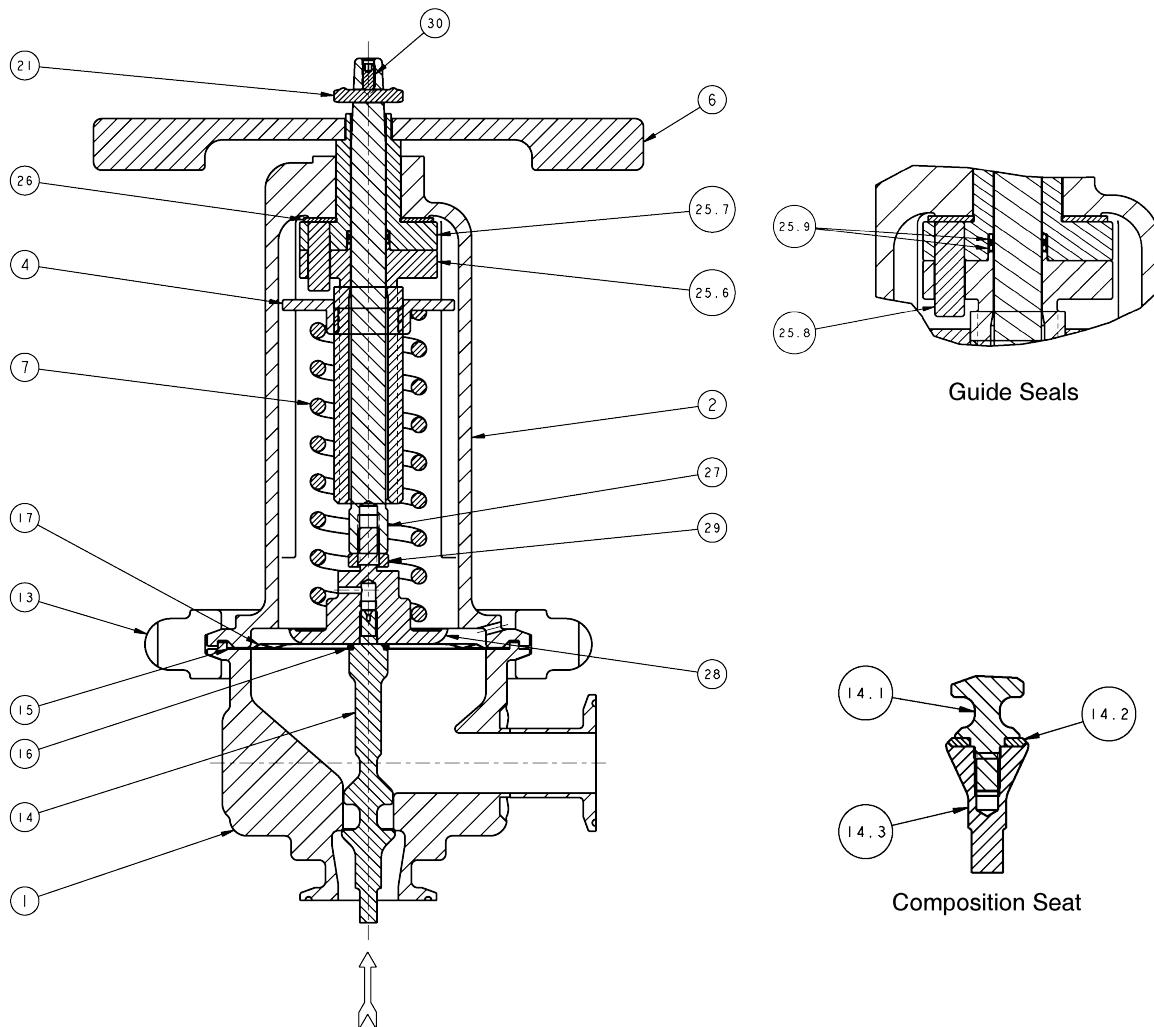

Figure 2
2. Refer to Figures 2 & 3 for basic regulator item number reference () and description.